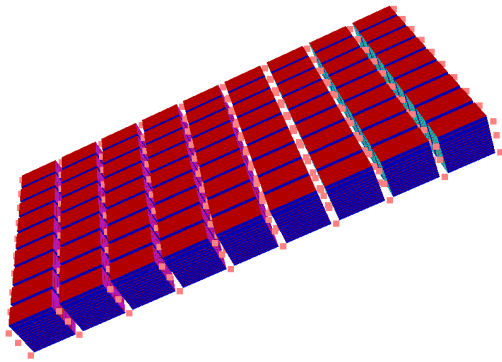

Figure 1: Skin1 behavior
- Behavior model: hexahedra made with a regular grid: Fig 1.